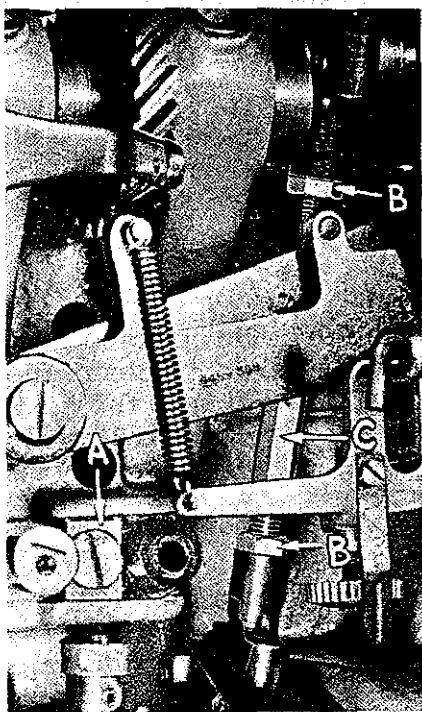

Fig. 5
Turn pulley in operating direction until needle enters needle guide slot in presser foot on left side. There should be .012 inch clearance between left side of needle blade and presser foot needle guide slot. Lightly tap the needle vibrating crank adjusting lug (A, Fig. 5) to right or left to secure this adjustment. In the photograph the needle vibrating crank has been removed for clarity.
Turn pulley in operating direction until point of looper is directly over center of needle as needle is returning on its left stroke. The back of needle eye should now be 1/16 inch from looper point. If adjustment is required at this point, loosen the two locknuts (B, Fig. 5) on ball joint connecting rod (C) and turn rod to secure this setting.